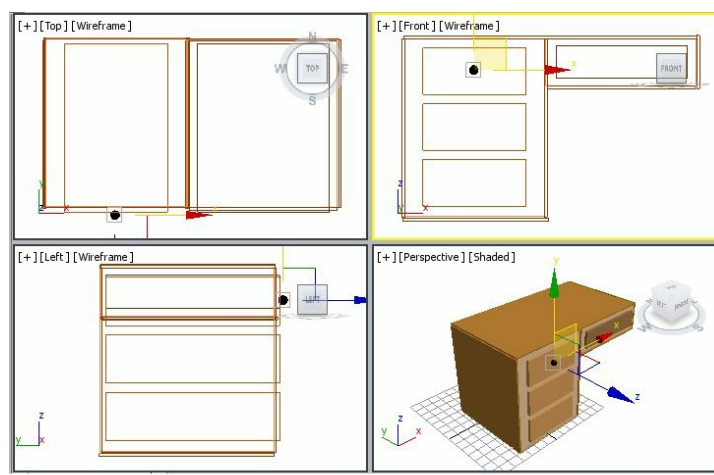

Figure 2-60 Alignment of knob001 with drawer001
4. Align *knob001* with *drawer001* in all viewports using the **Select and Move** tool, as shown in Figure 2-60.